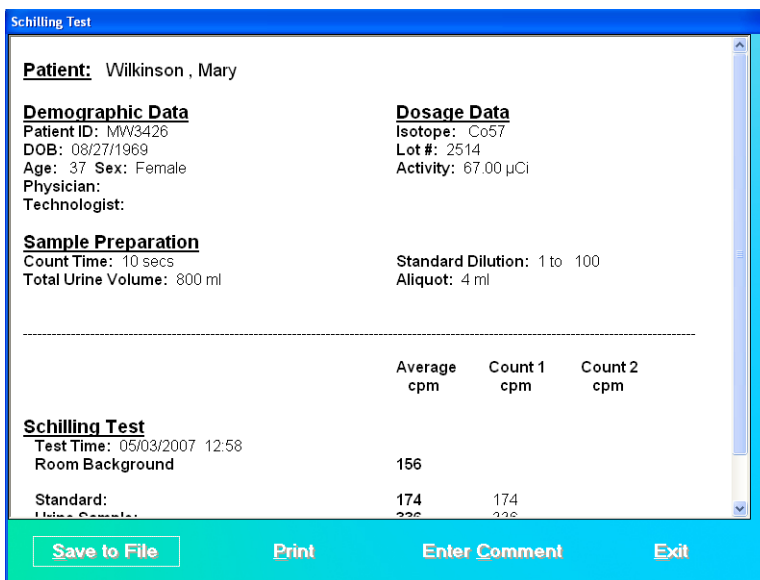

Figure 10-23
2. Click the **Report** icon. The screen appears as shown in Figure 10-23, showing a typical patient report. It contains the patient's demographic data, dosage and sample information, count data and calculated results. If Normal Range values have been